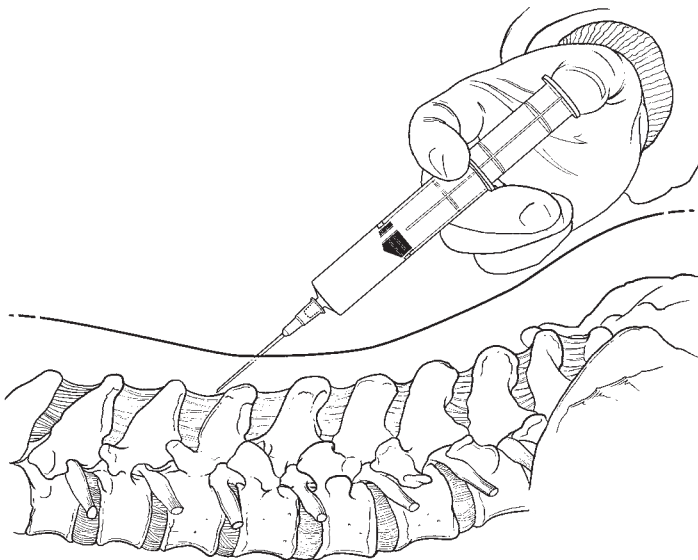

FIGURE 28
- 6 Use an appropriate local anesthetic to anesthetize the skin and subcutaneous tissues at the planned incision site (FIGURE 28).